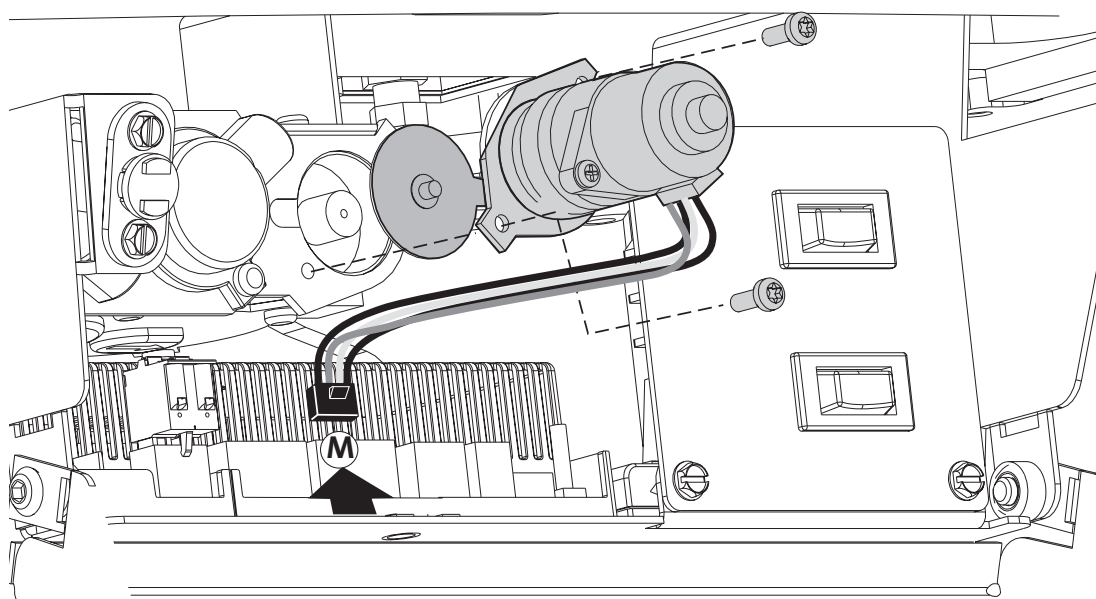

Figure 1. Flame Control installation.
2. Using a Torx T-20 screwdriver, remove the two screws from the front of the manual valve regulator and remove the components as shown in fig. 1.
4. Connect the wire harness to terminal (M) on the forward-facing side of the stove IFC board.